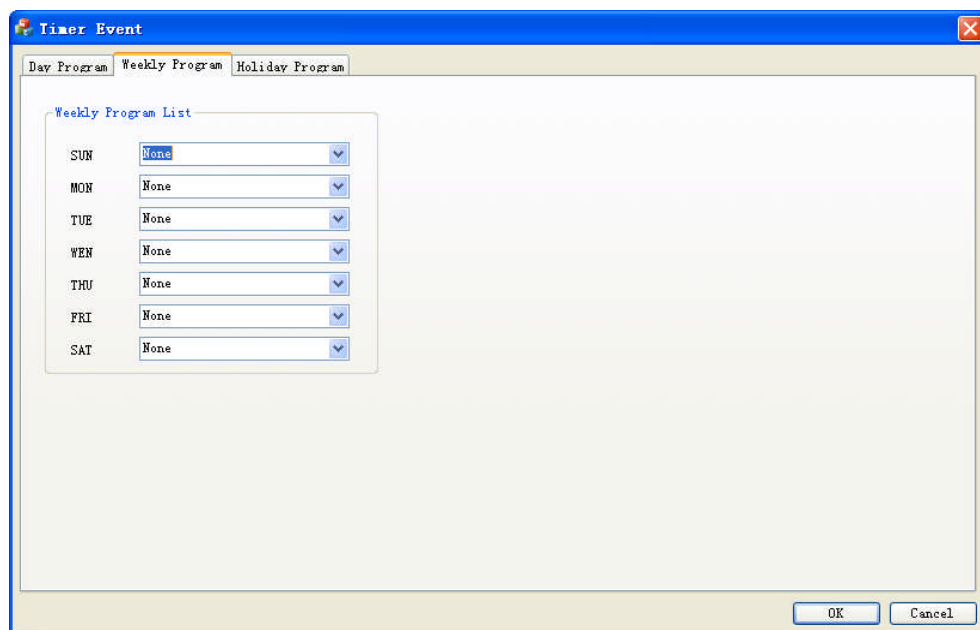

Figure 25 **Timer Event - Weekly Program Window**
1. Click Key Event on the subsystem on the right of window as shown in the Figure 7, the Timer Event window display as shown in the Figure 25.
2. Click Weekly Program tab, the Weekly Program window displays as shown in the Figure 25.
1. Click **Key Event** on the subsystem on the right of window as shown in the Figure 7, the Timer Event window display as shown in the Figure 25.